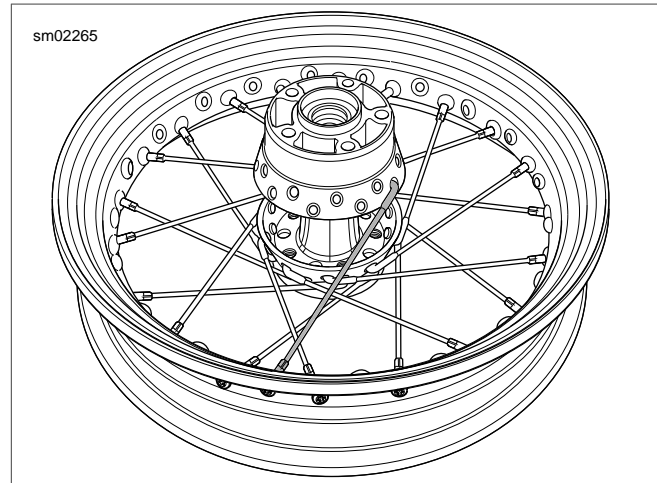

Figure 2-26. Sprocket Side Up: Start First Spoke of Bottom Row
7. See Figure 2-26. Turn hub and rim over so the primary brake disc side faces down. Place any **lower** row spoke into hub. Angle spoke clockwise and place into rim hole angled to accept it.